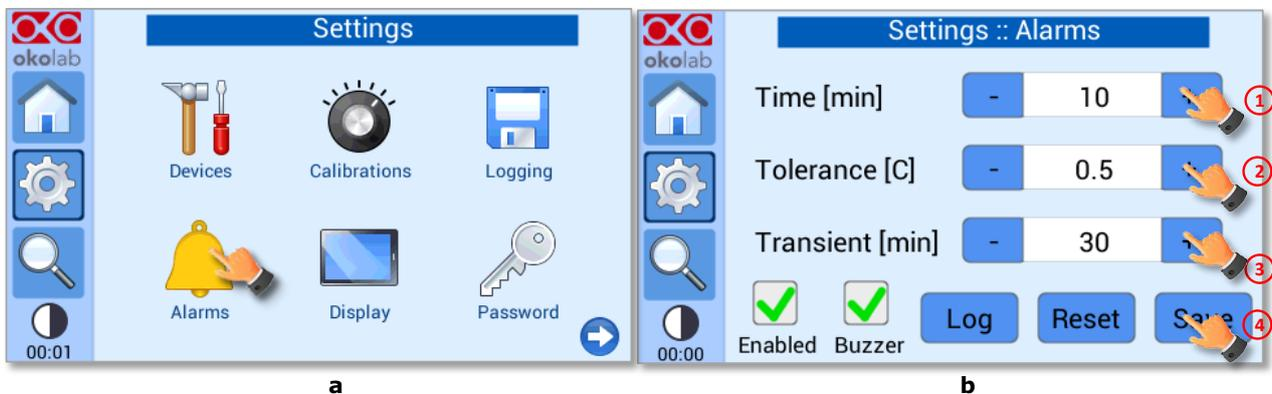

Figure 59. Alarms settings. (a) How to enter the Alarm setting menu; (b) Alarm configuration
To set the alarms specifications, press on the Alarms icon ; see Figure 59(a) then follow the indications below:
- 1 Insert the alarm time; i.e. the time for which the temperature of the Heating Devices may remain outside the allowed tolerance before the controller triggers in alarm, see 1 in Figure 59(b)
- 2 Insert the *Tolerance* value, see 2 in Figure 59(b). This value defines the allowed tolerance from the set point.
- 3 Insert the transient time; i.e. the maximum time that the system can take to reach a new set point, without triggering the alarm, see 3 in Figure 59(b).
- 4 Flag the tab labeled *Buzzer* if you want the alarm to be acoustical, additionally to being visual, see Figure 59(b)
- 5 Flag the tab labeled *Enabled* to enable the Alarms logic, see Figure 59(b)